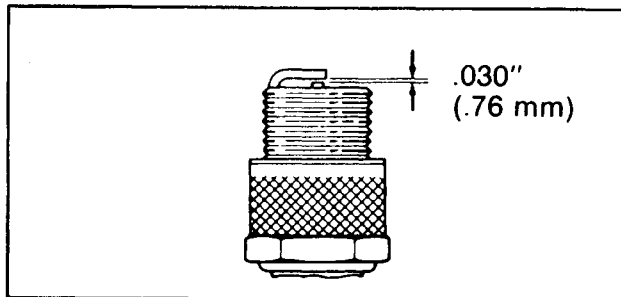

Fig. 13
3. **INSTALL SPARK PLUG** — Set air gap (Fig. 13) between electrodes at .030" (.76 mm). Install plug and tighten to 15 ft-lb (20.4N-m). If torque wrench is not used, tighten plug firmly. Push high tension wire onto spark plug.